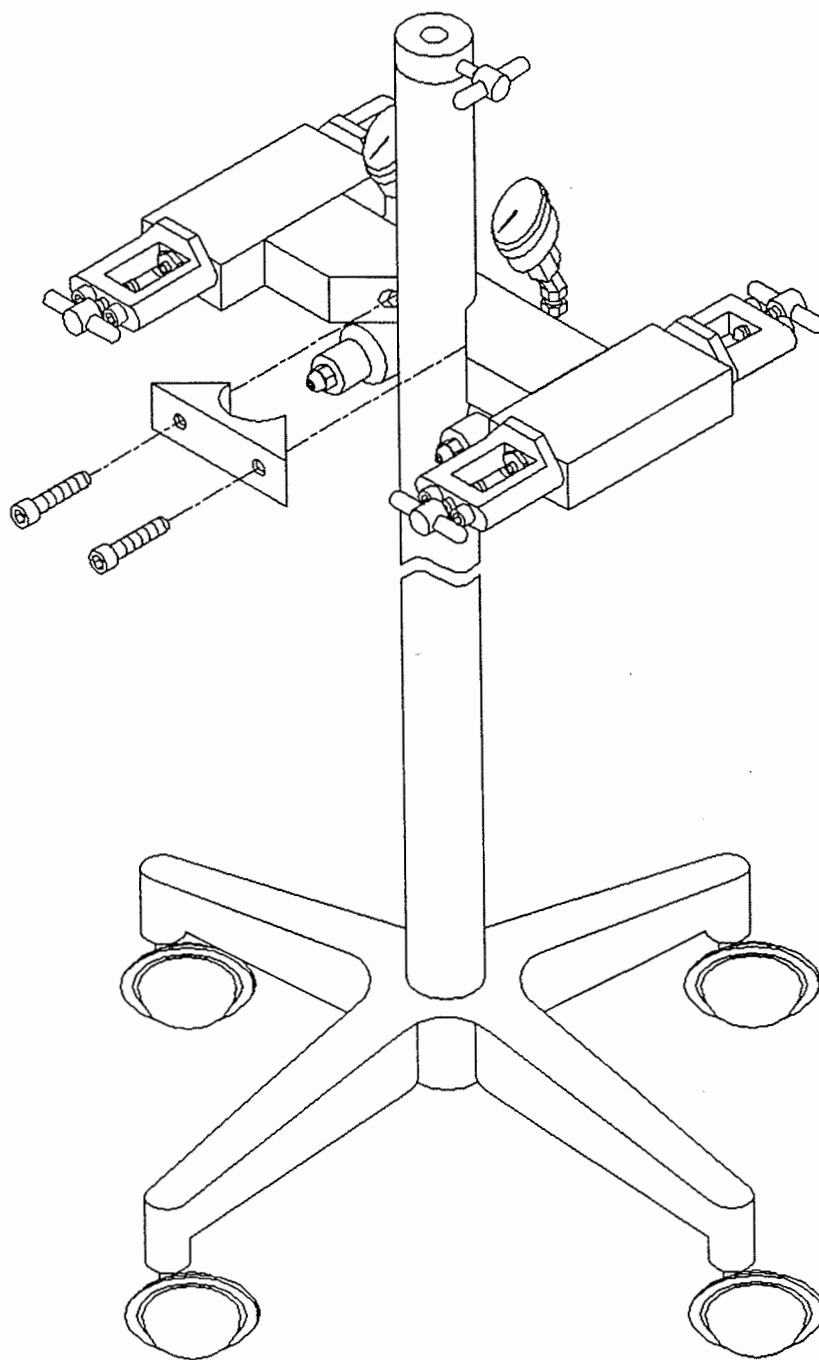

Figure 16
- H) Pass the socket head cap screws through the clearance holes and thread into the tapped holes and tighten them securely. See Figure 16.